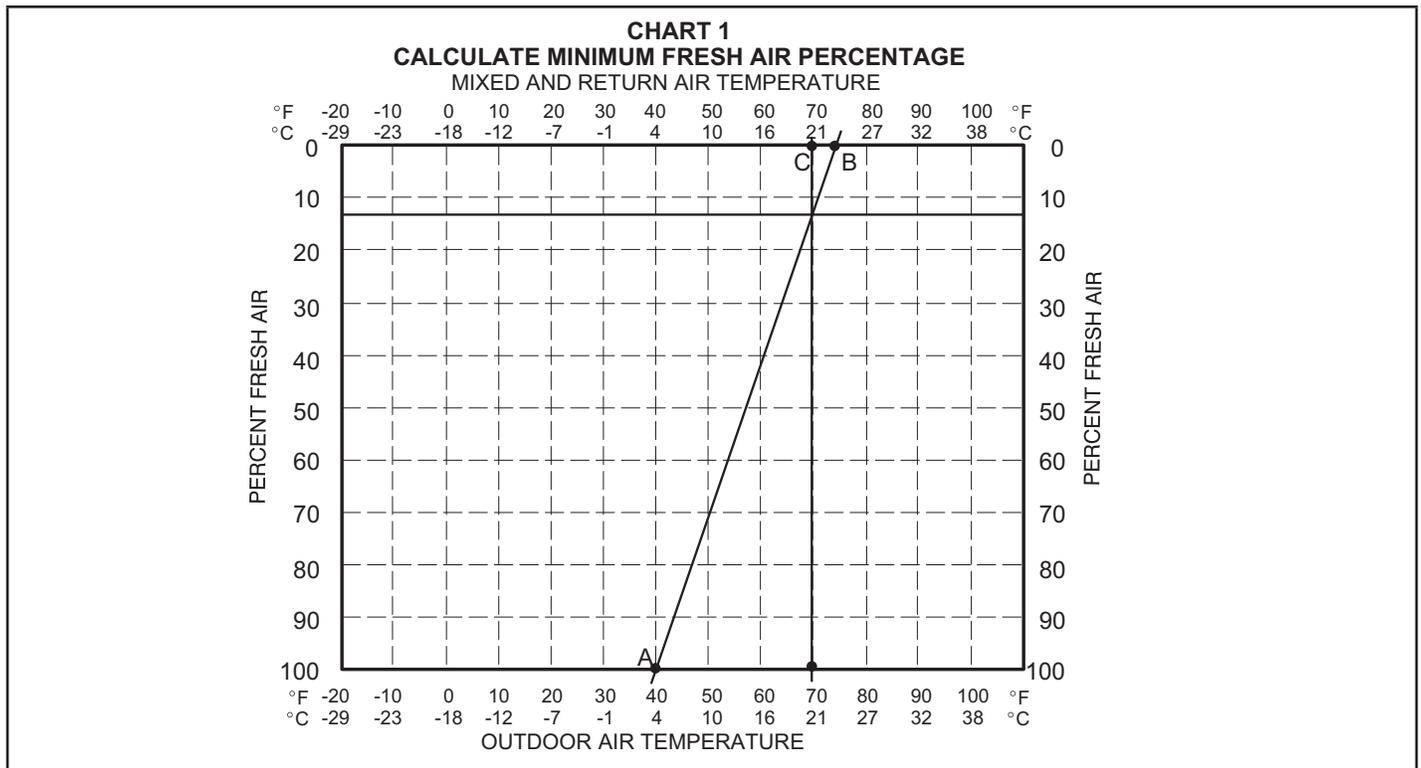

FIGURE 34
- 4 - Measure return air temperature. Mark that point on the top line of chart 1 (FIGURE 34) and label the point "B" (74F, 23C shown).